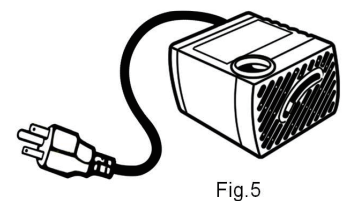

Fig. 5
7. If the pump runs with low or high water circulation Check and adjust the regulator dial or slide on the front of the pump. Adjust the dial/slide towards (+) to increase water flow or towards (-) to decrease water flow. (Fig.5)